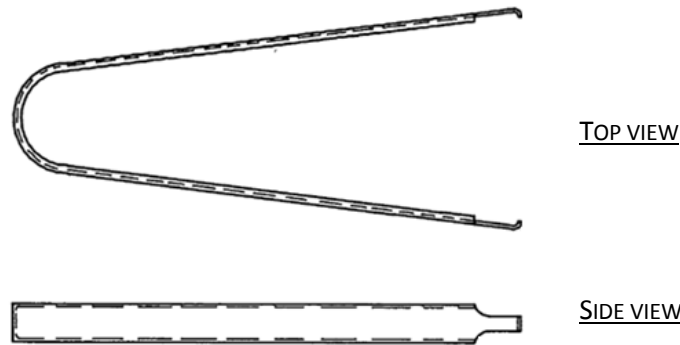
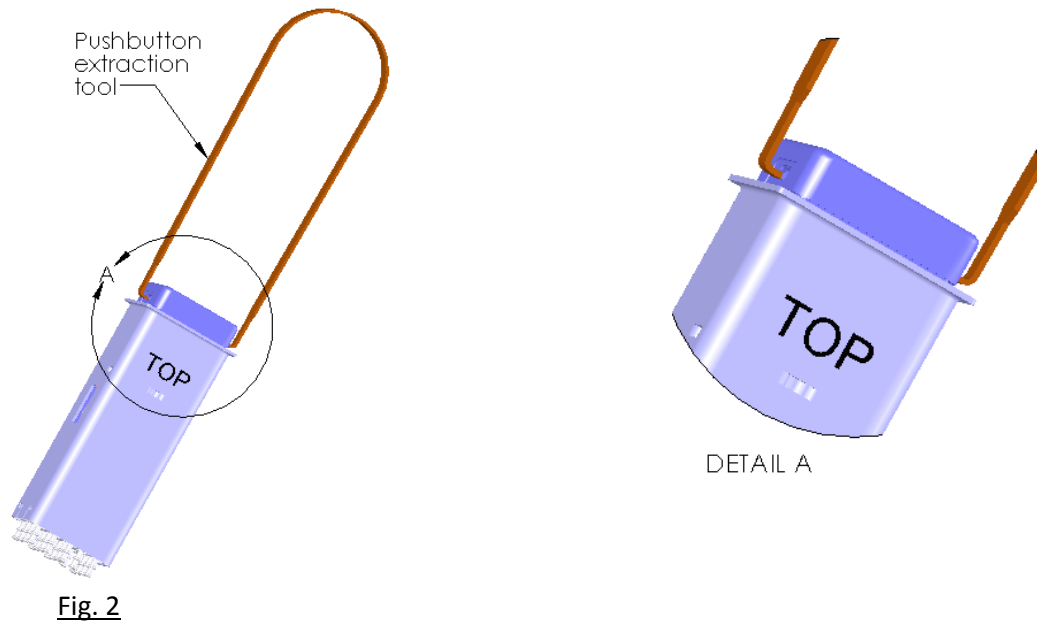

Fig. 1 - pushbutton extraction tool (PN-15193)
Fig. 2
USING PUSHBUTTON EXTRACTION TOOL, SEE FIGURE 1, POSITION THE TOOL'S GRIPPING TABS UNDER THE PUSHBUTTON'S BEZEL RETENTION TABS (SEE FIGURE 2 & DETAIL A). CLAMP/SQUEEZE THE TOOL GENTLY, BUT FIRMLY, AND PULL THE PUSHBUTTON AWAY FROM THE SWITCH ASSEMBLY. THE REMOVAL FORCE SHOULD BE IN THE RANGE OF TWO (2) TO FIVE (5) POUNDS.